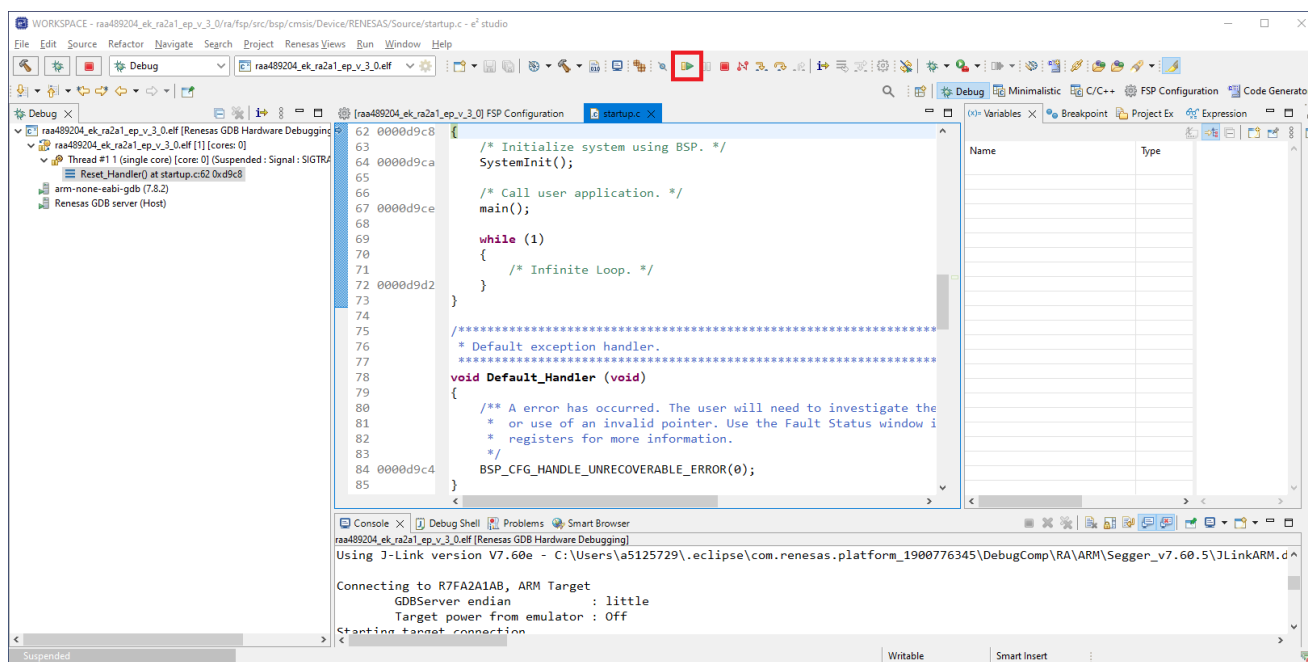

Figure 6. Generation of Additional Project Files
- Open **Project** from top menu and press **Build All** button. Then open **Run** from top menu and select **Debug As > 3 Renesas GDB Hardware Debugging**. The IDE changes automatically to a debug perspective and a debug session is started (**Figure 6**). Press the **Resume** button twice to run the code.